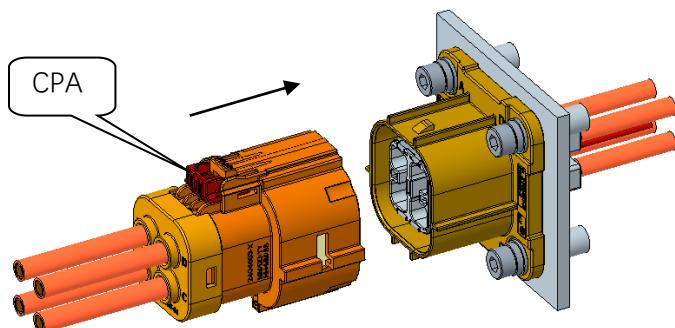

Figure 8
1. Align the plug connector and header connector as shown in Figure 8.
如图 8 所示, 公母端连接器对齐。